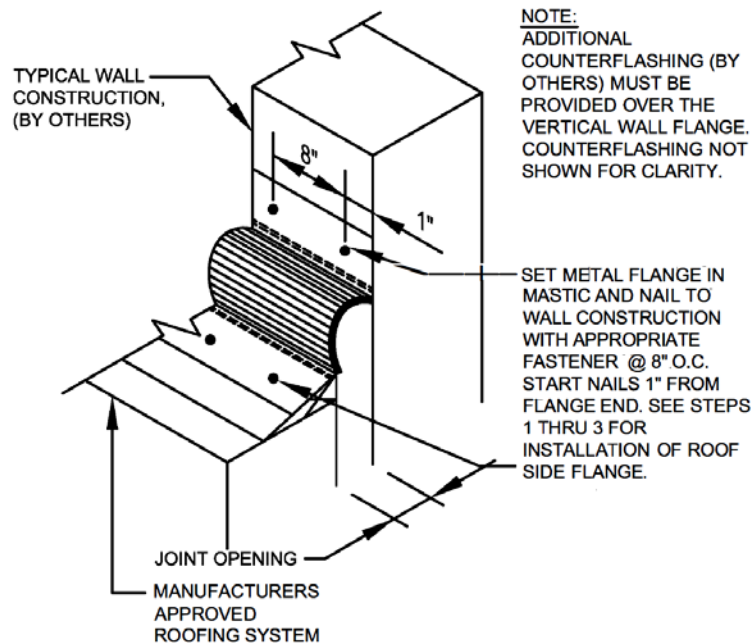

Figure 9
9. Set wall flange in membrane compatible mastic and nail to wall construction w/ (1) appropriate fastener at 8" o.c. start fasteners 1" from flange end. **See Figure 9**